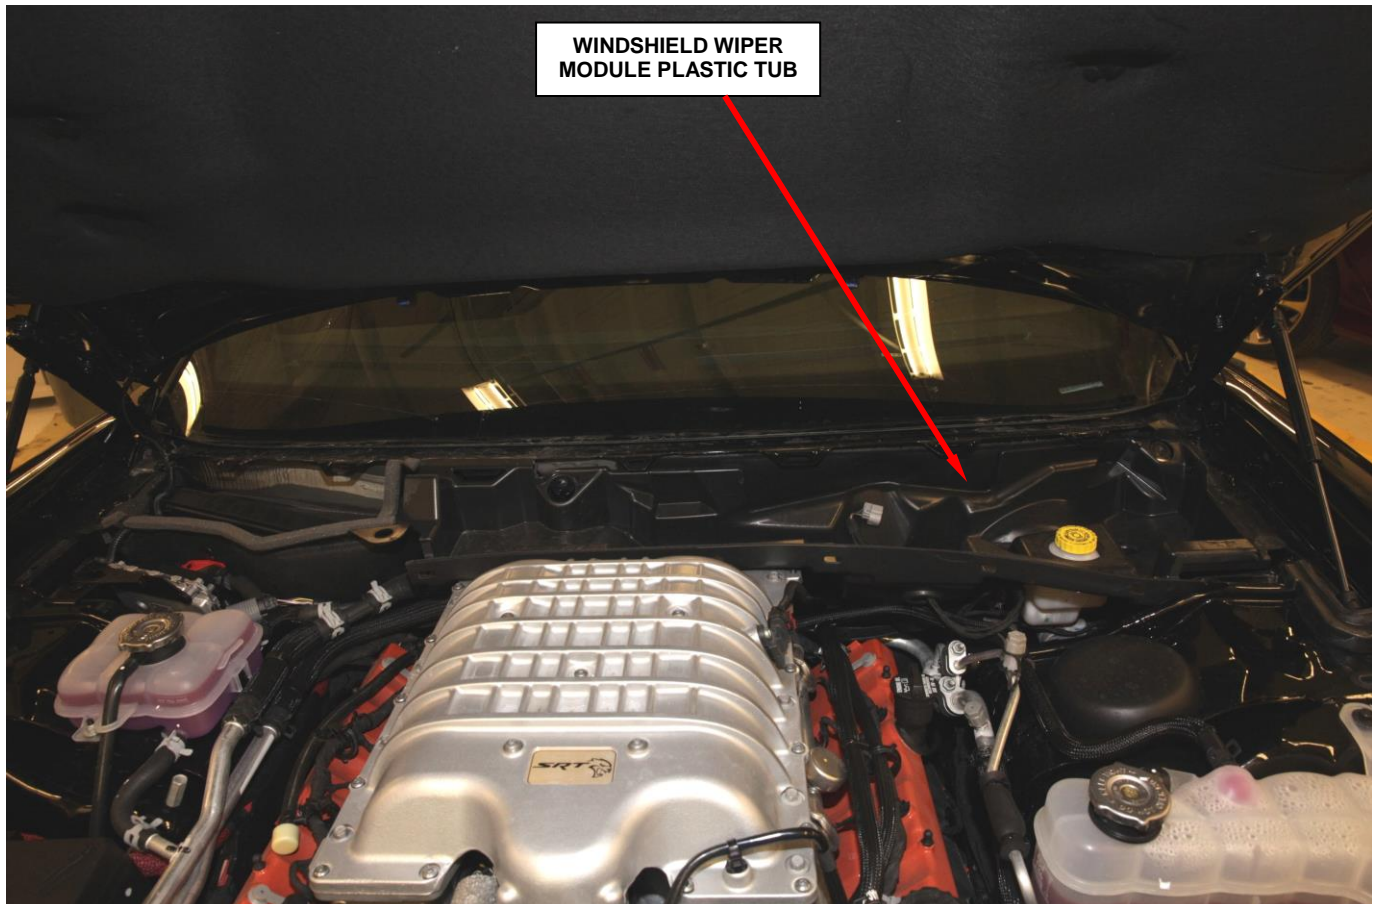

Figure 8 – Windshield Wiper Module Plastic Tub
- g. Remove and save the windshield wiper module plastic tub (Figure 8).